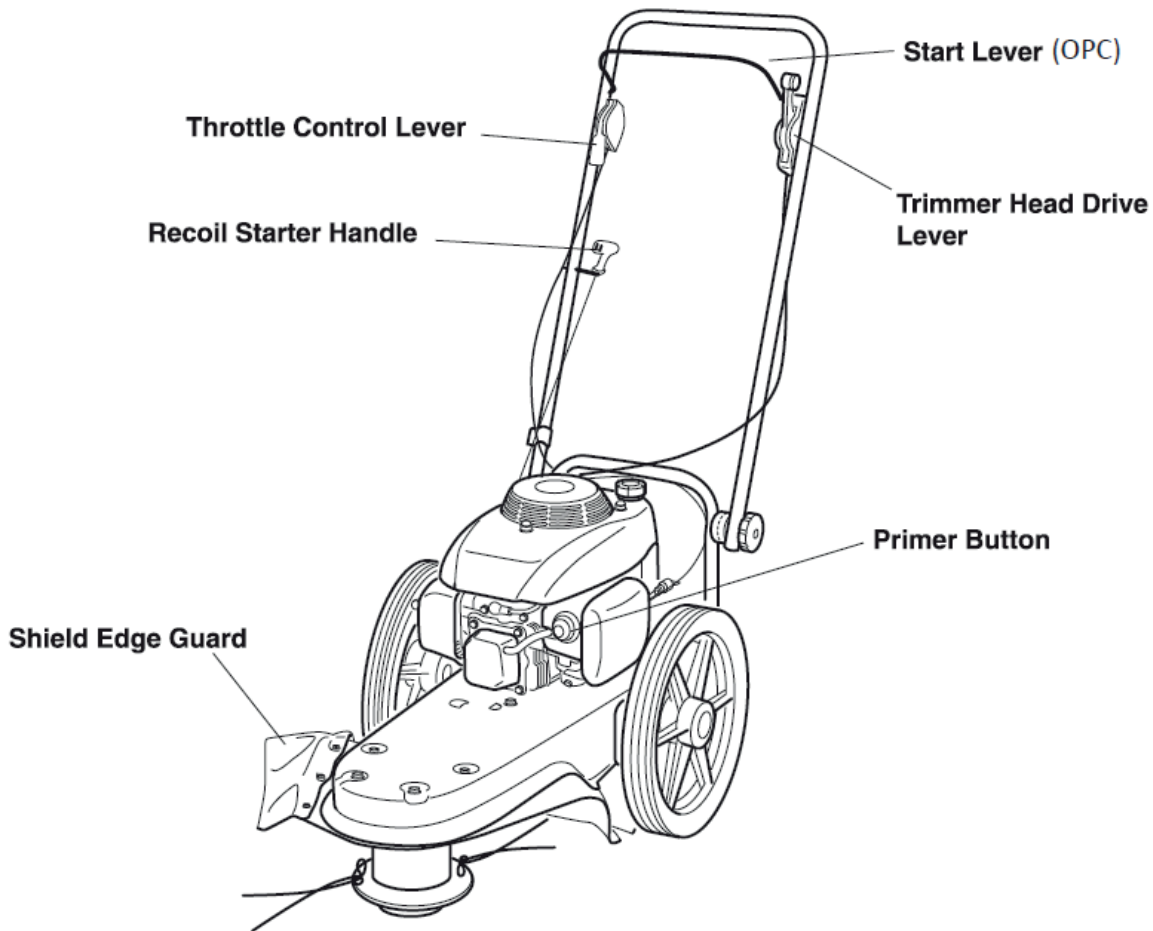

Figure 1
4.1.1 Read the operators manual and all safety rules before you operate the trimmer. To familiarise yourself with the location of the controls, compare Figure 1 with your trimmer. Save this manual for future reference.